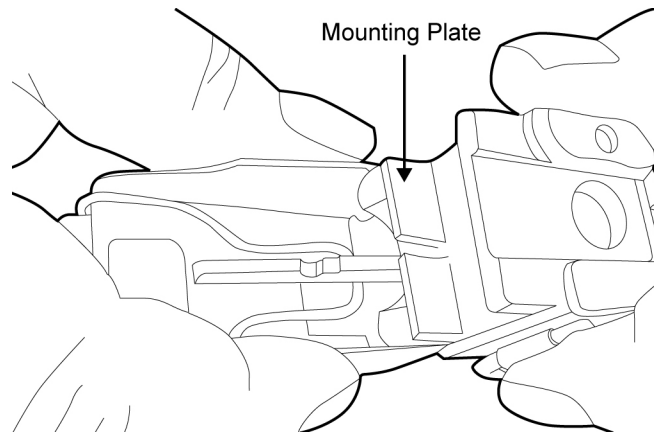

Figure 53. Installing the Mounting Plate.
- c. Install the mounting plate onto the side folding buttstock. This will place the mounting plate and release lever under spring tension. Refer to Figure 53.